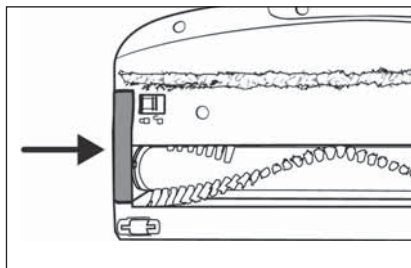

Fig. 32
- 6) Put the rotary brush holder **20** back into the floor brush **22**. Push it down until it audibly clicks into the floor brush **22** (see Fig. 32).